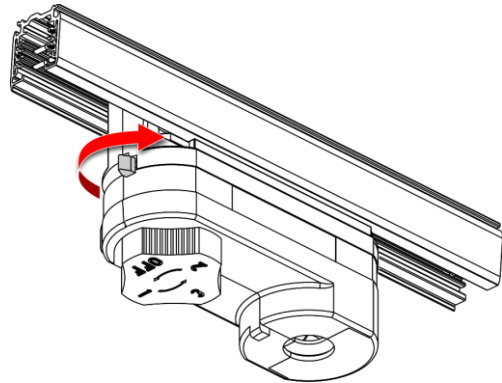

Fig. 09
- 04) Insert the **track adapter (01)** in the track and push it until it snaps into place.
- 05) Turn the **track lock (06)** clockwise to lock the device in the track, as shown in Fig. 09.